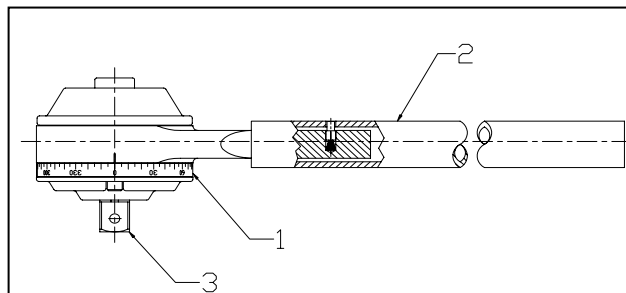

Figure 1.
- 6.1 Mount the proper size square female drive socket onto the torque multiplier's output square drive (Fig. 1 Item 3), then position socket and torque multiplier on the fastener to be tightened.